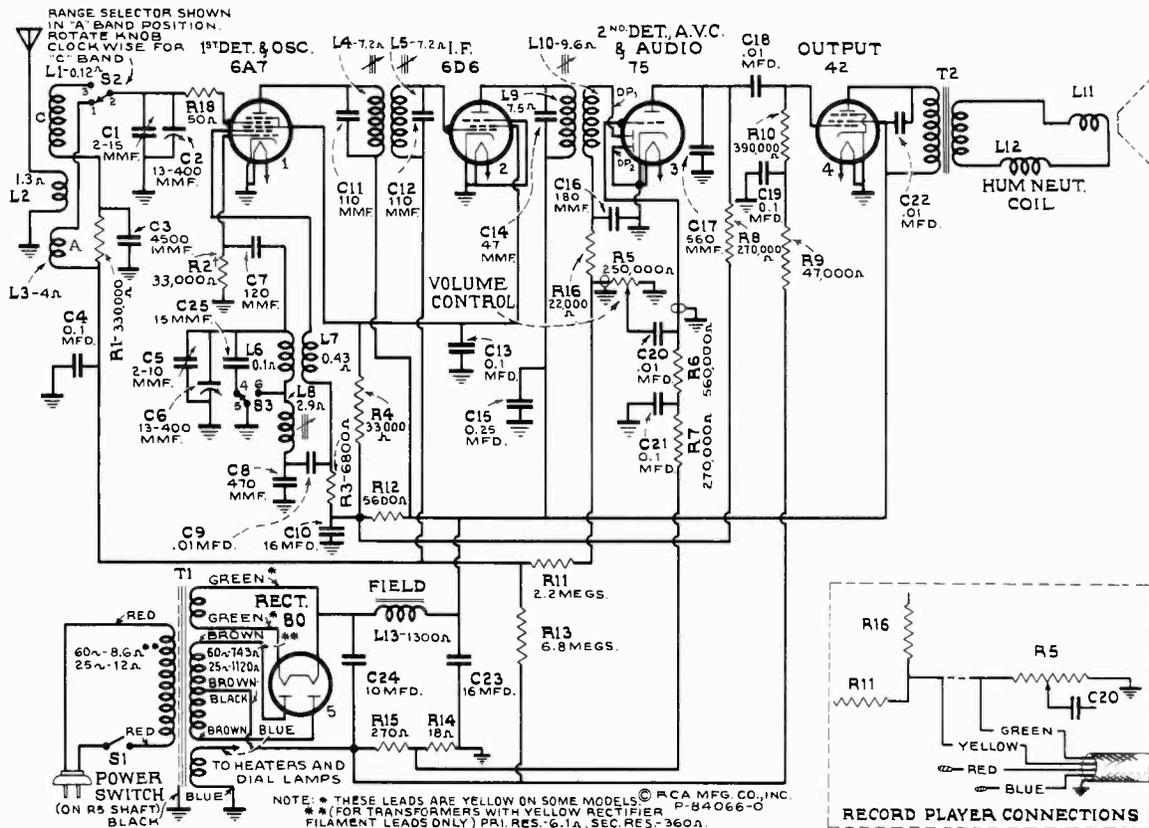

Figure 2—Schematic Circuit Diagram
**Phonograph Attachment**—See Schematic Circuit Diagram, figure 2.